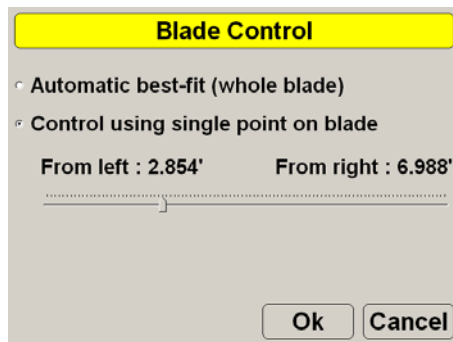

Figure 8-23. Blade Control Using Single Point on Blade
2. With *Control using single point on blade* selected, hold the slider button and move it left or right to select a point at a distance from the left/right side of the blade (Figure 8-23).